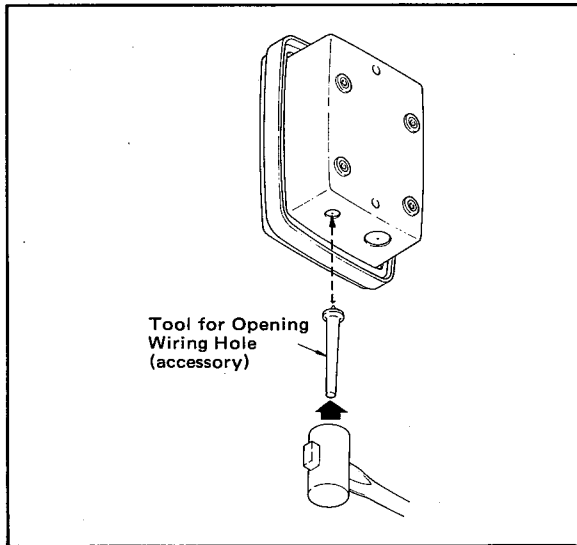

Figure 2-10. Opening Wiring Hole.
- (1) Open the wiring hole to the terminal box. A semi-punched wiring hole is provided in the case bottom. Place the tip of the tool — supplied with the terminal box — on the semi-punched hole edge and tap the tool end gently using a hammer as shown in Figure 2-10.
- (1) Open the wiring hole to the pH converter. A semi-punched wiring hole is provided in the case bottom. Place the tip of the tool supplied with the pH converter on the semi-punched hole edge and tap the tool end gently using a hammer as shown in Figure 2-10.
- (2) Loosen two screws on the pH converter front panel by turning them counterclockwise with your hands to remove the cover. Remove the plate covering the sensor cable connecting terminals located in the right side of the case. The plate is fixed with two screws.
- (3) Connect the sensor cable to the converter terminals. First, remove the nut from the cable gland, then pull the cable into the internal assembly through the wiring hole. Pass the cable through the nut. Correctly connect each conductor to the corresponding terminal observing conductor marking.